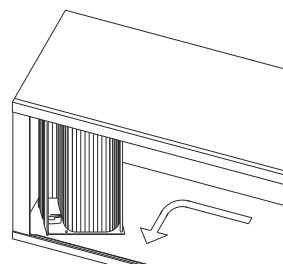

Fig. 5
4. Move the spring mechanism at the top position, front facing outside and draw the rolling shutter through left & right track. Refer Fig.5, 6, 7.